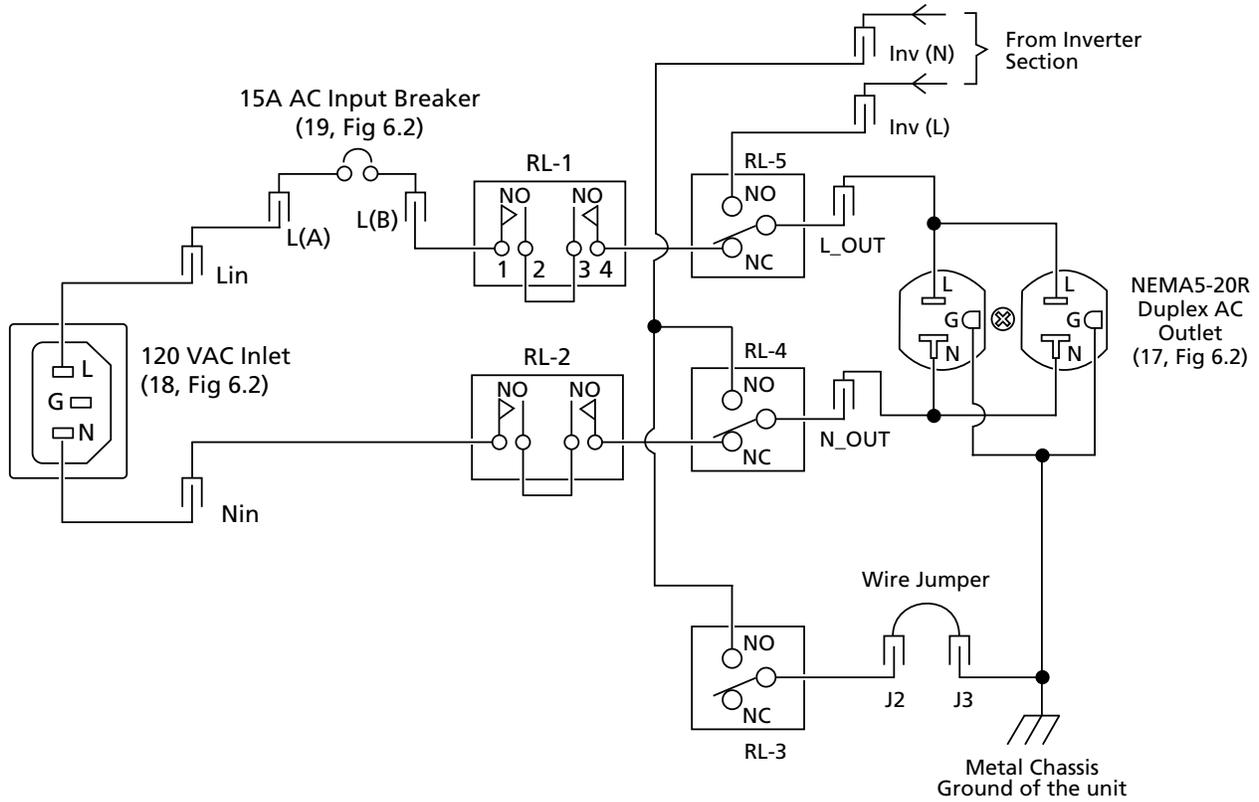

Fig. 5.1: Connection Diagram of Transfer & N-G Bond Switching Relays
When the Inverter Section is turned OFF but AC GRID input is still available, AC GRID input voltage will be bypassed to the load through the closed contacts of the energized Relays RL-1 and RL-2 and the Normally Closed (NC) contacts of the de-energized Relays RL-4 and RL-5(see Fig. 5.1). Relays RL-1 and RL-2 are energized by +12VDC generated by a small Switch Mode Power Supply (SMPS) that is powered from the AC GRID input and NOT from the batteries. Hence, in this condition, there will be no current draw from the batteries.
In this unit, set of Transfer Relays are used to (i) switch the AC load between the AC GRID and the Inverter (Section 5.4.1) and (ii) to switch Neutral to Chassis Ground bonding i.e. bond the Output Neutral to the Chassis Ground in Inverter Mode and unbond when in Bypass Mode (Section 5.4.3). Connection diagram of these relays is shown in Fig 5.1 below:
LEGEND FOR FIG 5.1
LEGEND FOR FIG 5.1 (Continued)
Refer to Fig 5.1.
Refer to connections of Relay RL-3 in Fig 5.1.
5.4.3.1 Permanent isolation of Output Neutral from metal Chassis Ground: In certain applications, it may be necessary to isolate the Output Neutral from the metal chassis ground permanently. For this requirement, remove the internal Wire Jumper connecting Terminals J2 and J3 (Fig 5.1) [will require removal of top cover of the unit to access this Wire Jumper].